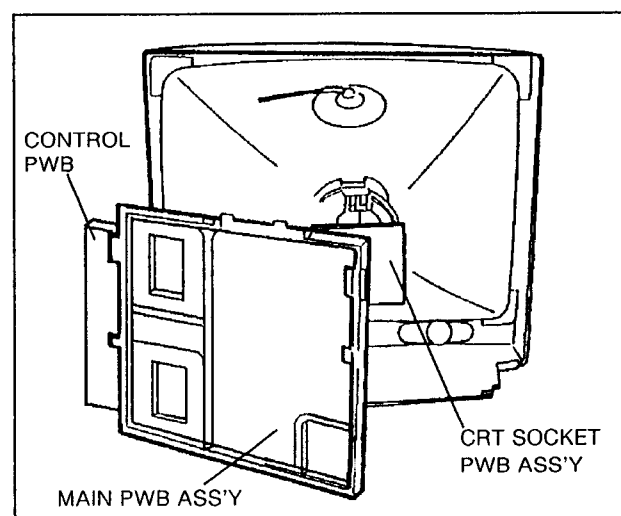

Fig. 3
1. As shown in Fig. 3, place the unit for service.